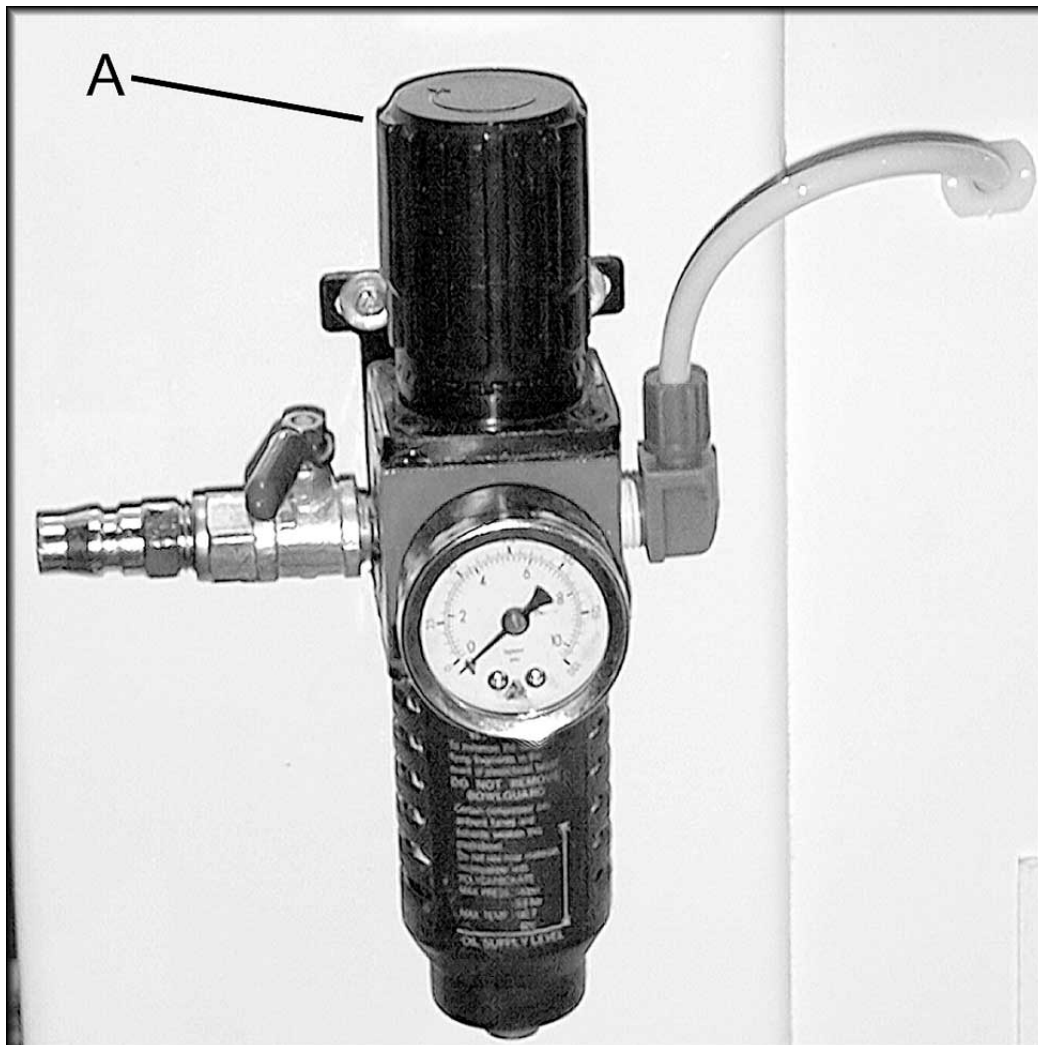

Figure 2. Air pressure regulator for sander
Compressed air supply. The sander uses compressed air to tension the sanding belt and to oscillate the belt from side-to-side. Operating the sander with no compressed air can cause the sanding belt to break and cause severe damage to the sander. Prior to starting the sander, turn on the air compressor, open the block valve at the outlet of the air compressor tank and open the block valve at the inlet to the pressure regulator mounted at the rear of the sander. Refer to Figure 2. Adjust knob (A) to maintain a pressure of about 75 psig. An interlock will prevent the sander from starting if the air pressure is less than 75 psi. If the sander abrasive belt drive roller or the feed conveyor will not start, verify that the air is turned on and above 75 psi.